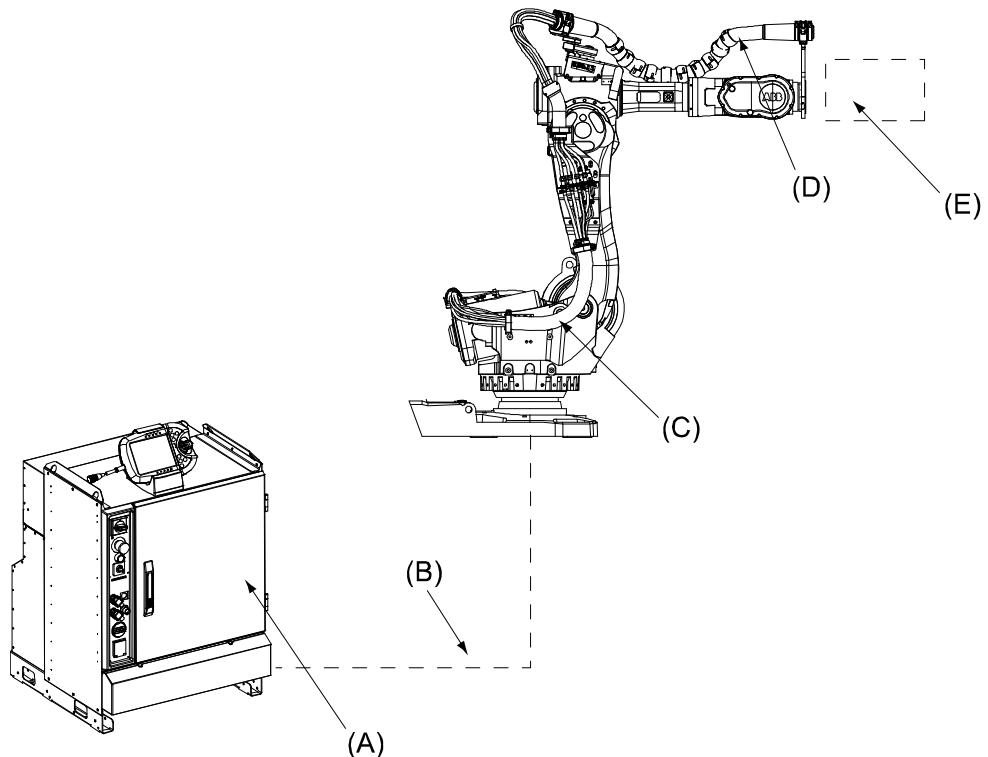

Figure 58 Dresspack configuration.
Variant Type H is designed for Material Handling (MH) application. Included modules are shown in Figure 58.